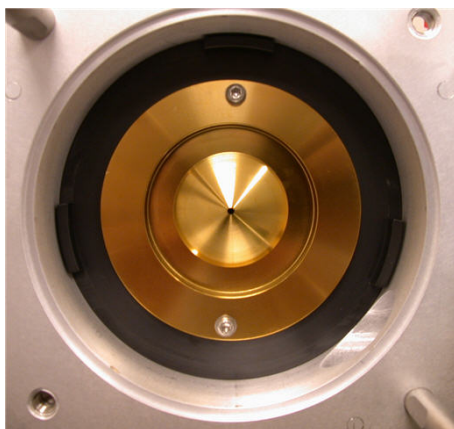

Figure 71 Skimmer 1. The hole in the skimmer varies by instrument type.
- c Carefully remove **skimmer 1** (Figure 71). If needed, use a flat blade screwdriver to gently pry **skimmer 1** from its seat.